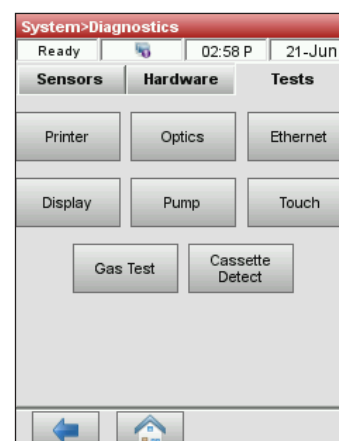

Figure 28. System Manager> Diagnostics> Tests> Pump
10. Tap **Pump** (figure 28) to test the pump motor. The pump should rotate smoothly without excessive noise. This diagnostic test automatically steps through all the speeds used during normal operation (7.5–120 rpm) and then returns to the Diagnostics> Tests tab.